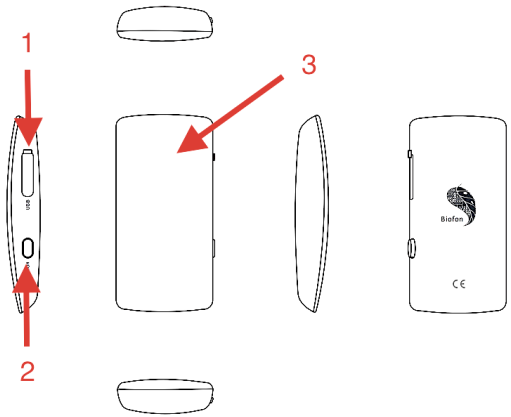

Figure 1: BIOFON Device
1. To switch the device on, press and hold the button 2 (Figure 1) for 1-2 seconds.
2. To switch the device off, press and hold the button 2 (Figure 1) for a minimum of 2 seconds, until the device turns off.
7. You can stop running the frequency module at any time by pressing and holding the button 2 (Figure 1) for a minimum of 2 seconds, until the device turns off. You can then restart the module by switching the device on.
8. When BIOFON device switches off, the LED indicator 3 (Figure 1) will quickly blink 3 times and then goes off.